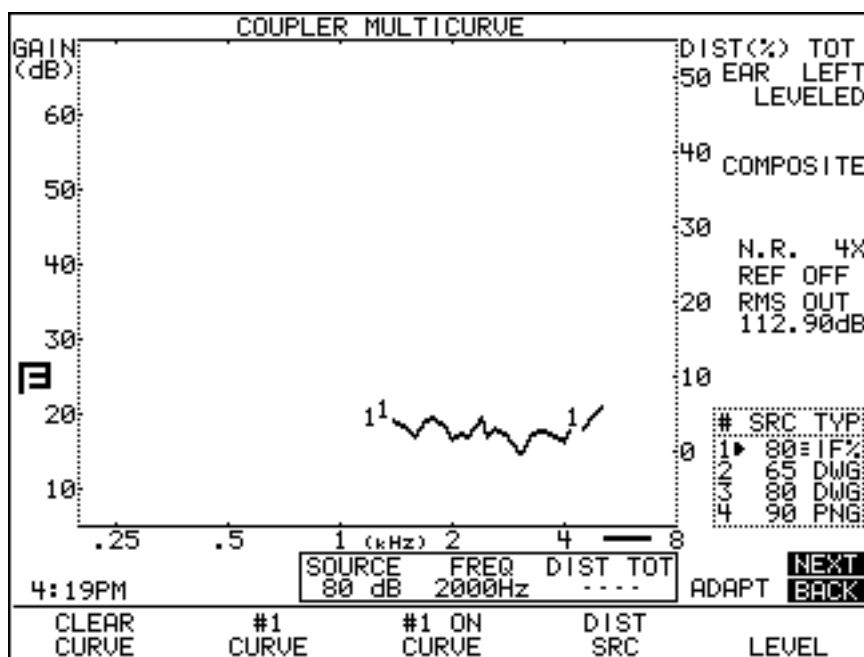

Figure 3.5.3—IM distortion sweep
11. Press [START/STOP] to perform the IM distortion sweep. See Figure 3.5.3 for an example. The percentage scaling for the measurement is located on the right side of the graph. Notice the thick line below the lower right corner of the graph. This is an indication that the current selected measurement uses the right side scaling.